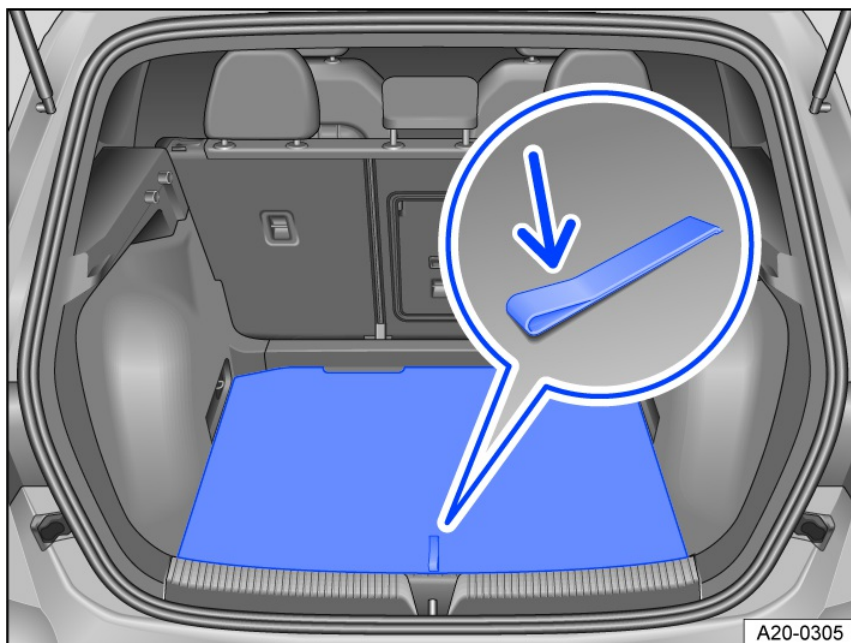

Fig. 126 In the luggage compartment: opening the luggage compartment floor.
1. Grasp the opening in the luggage compartment floor *fig. 126* (arrow) and lift the luggage compartment floor.